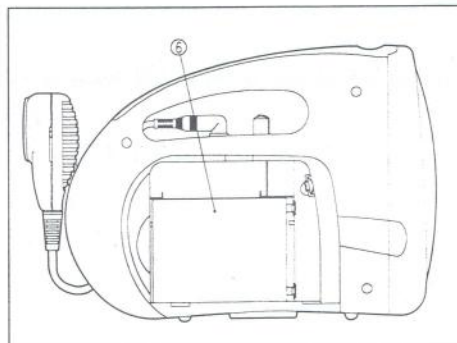

Fig.4
- 3.1.3 RECHARGING : As shown on Fig. 4, to load the rechargeable battery into the P.A.unit, make sure the red point is downward, the black point is upward.